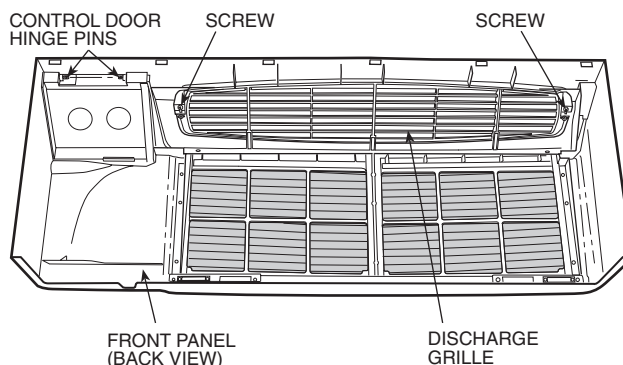

FIGURE 19 — LOCATION OF SCREWS ON DISCHARGE GRILLE
2. Flip the front panel over to the backside. Remove the 2 screws on each end of the air discharge grille and remove grille. See Figure 19.